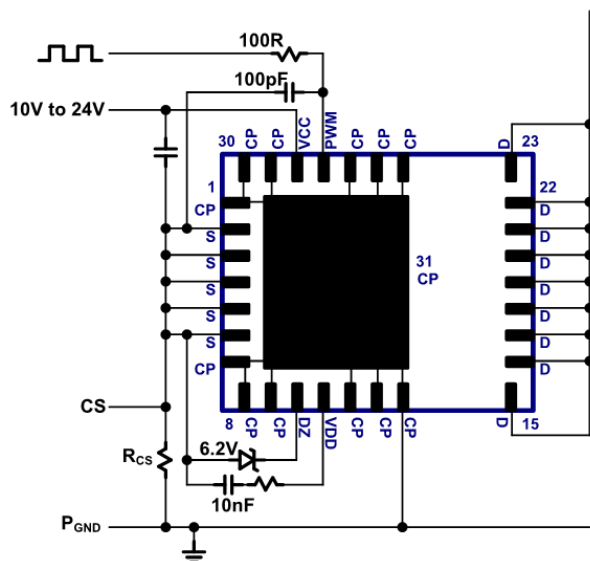

Fig. 24. Current sensing circuit
For many applications it is necessary to sense the cycle-by-cycle current flowing through the power FET. To sense the current flowing through the GaNFast power IC, a standard current-sensing resistor can be placed in between the source and power ground (Fig. 24). In this configuration, all of the components around the GaNFast power IC ( $C_{VCC}$ ,  $C_{VDD}$ ,  $D_Z$ , etc.) should be grounded with a single connection at the source. Also, an additional RC filter can be inserted between the PWM signal and the PWM pin (100  $\Omega$ , 100 pF typical). This filter is necessary to prevent false triggering due to high-frequency voltage spikes occurring at the source node due to external parasitic inductance from the source PCB trace or the current-sensing resistor itself. For increased cooling pad PCB copper area it may be desired to connect CP to the circuit PGND. Fig. 24 shows the components around the GaNFast power IC grounded at the source pins (S) and CP connected to PGND. This allows for all CP pins and CP pad to be connected to a large and continuous thermal copper area without being obstructed by the current sensing resistor. **CP must be connected to source (S) or circuit PGND!**